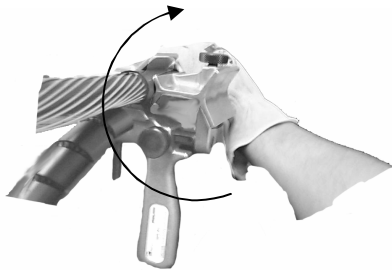
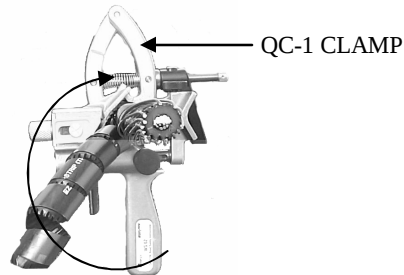

Fig. 10
Fig. 11
Step 4. A square cut on the jacket or insulation can be achieved by stopping the tool's forward motion with a gloved hand (Fig. 10) or with a Ripley Utility Tool QC-1 Clamp (Fig. 11). If an exact stripping length is required, place the QC-1 Clamp 2" (50.8mm) further down the cable than the desired length when using the CB 50K End Strip Blade and 2 3/8" when using the CB 236 Mid Span Blade.